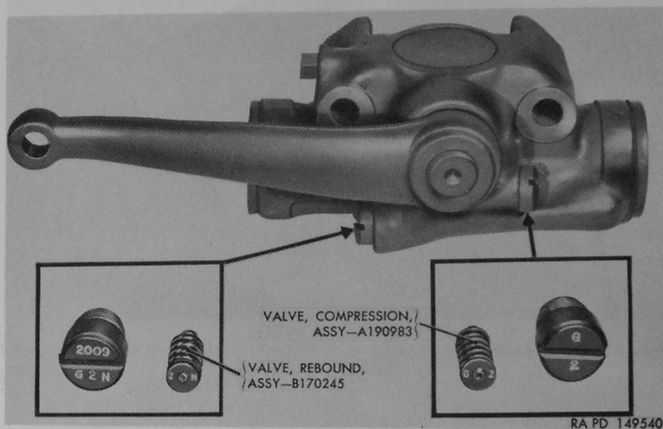

Figure 213. Shock absorber valve identification.
*d.* Rebound and compression valves, which control the flow of fluid in the shock absorber, are installed in drilled passages in the shock absorber body and retained by nuts with soft aluminum gaskets. Valve identification code numbers are stamped on nuts and on valve washers as shown in figure 213. Valves having the same code number as stamped on the retaining nuts must always be used.
sure valve code stamped on outer spring retainer washer on each valve is the same as the code stamped on the valve nuts (fig. 213).
d. *Installation of Rebound and Compression Valves.*—Compression valve assembly, marked “G-2” (fig. 213), must be installed in opening opposite the arm end of the shock absorber, and the rebound valve assembly, marked “2 N,” in other end. Place each valve assembly in body, making sure guide at inner end of valve enters passage at bottom of valve bore. Secure in place with rebound and compression valve nuts (N) and valve nut gaskets (Q). Nut marked “G 2” must be installed over the compression valve, and nut marked “G 2 N” over the rebound valve. Tighten nuts firmly.